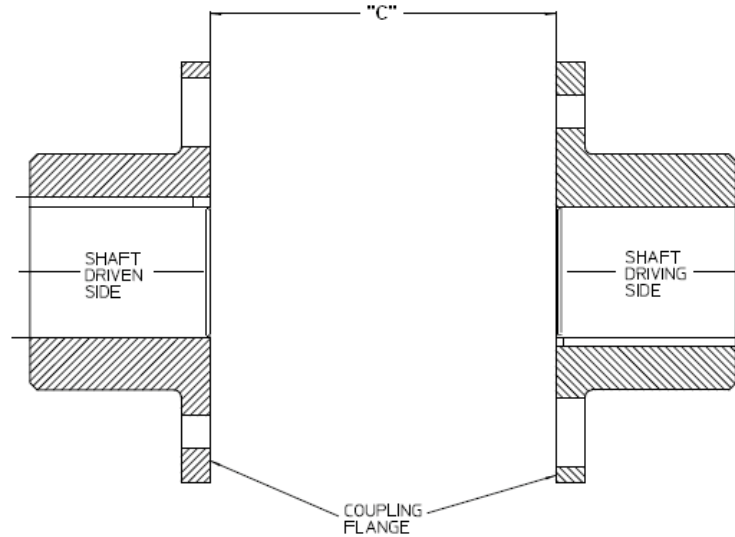
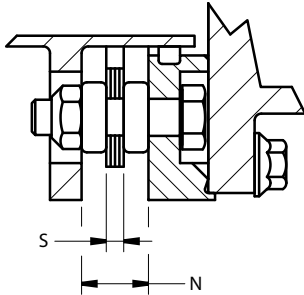

Figure 9 - Mounting Hubs on Shafts
Figure 11 - Alignment confirmation values.
9.1. Verify that the hubs have been mounted to provide the correct “C” dimension shown in Figure 9 and defined in Table 1. The “C” dimension is the distance measured between the faces of the two hub flanges.
- 9.8. As an assembly and alignment check, measure the distance "N" between the flanges of the hub and the center spool at each end, as shown in Figure 9 and Figure 11. Dimension "N" should be measured at four (4) positions equally spaced around the circumference of the disc pack gap (at top, bottom, and side positions) at each end.
- If the N_{average} value is outside of these specifications, use a more precise measurement method to verify an acceptable gap, by first measuring the thickness of the disc pack "S" as shown in Figure 11. The discs should be tightly compressed during the measurement. Calculate "G" by subtracting "S" from N_{average} .
10.3. Remove all locknuts, bolts, washers, and disc packs. Special wrenches may be required. Clean the two adapters and the center member, removing any nicks and burrs. See Figure 9. Install the new disc packs to the adapters first.